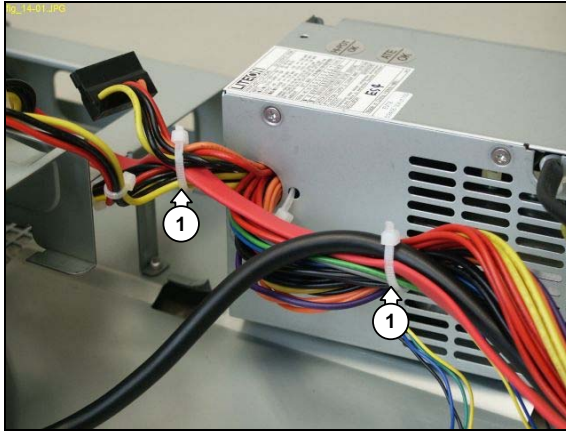

Figure 12.14-1
8. Remove cable ties (1) from the PSU cables. See Figure 12.14-1.
4. Remove cable ties (1) from the PSU cables. See Figure 12.14-1.